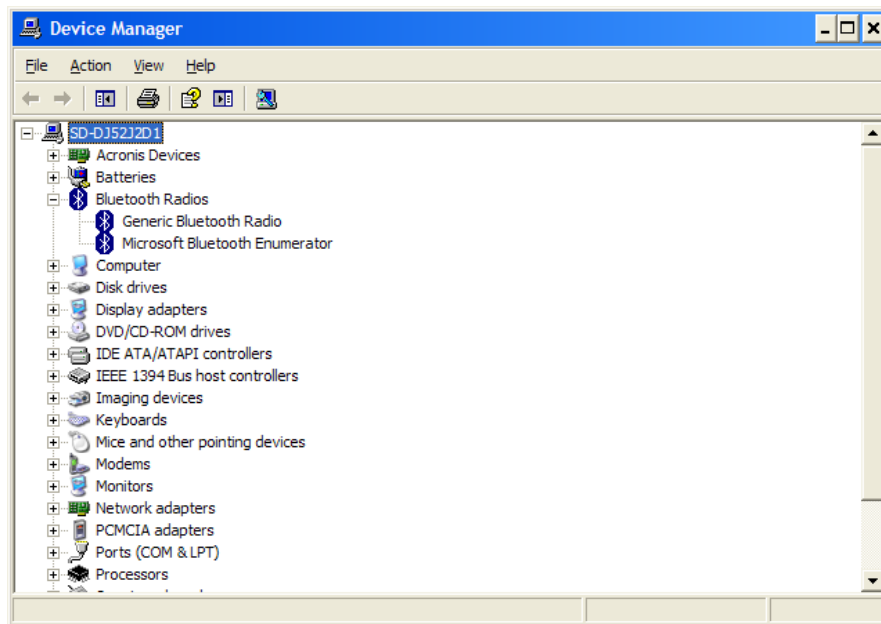

Figure 28 – Windows Device Manager
- For XP and Vista, the **Device Manager** will be similar to Figure 28.
- The exact drivers shown will vary depending on the operating system and the specifics of your computer, but it is likely to look something like Figure 28.